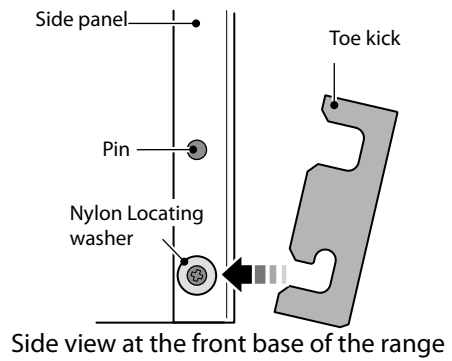
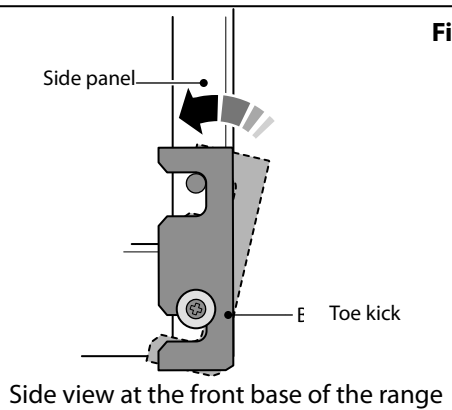

Fig. 12.16
Fig. 12.17
1. Tilt the bottom of the panel slightly to locate the lower slots onto the washers (**Fig. 12.16**). Now rotate the panel to fit over the pins (**Fig. 12.17**).